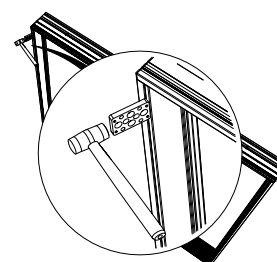

Figure 6: Remove frame cover
- A: Removing the aluminium cover at the fixed part (figure 6)